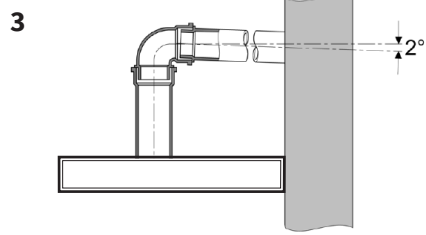

Fig. 3: inclination angle of the exhaust air pipeline
- If the exhaust air pipeline is horizontally routed, there must be a minimum gradient of 1 cm per metre or an inclination angle of 2°. (**Fig. 3**) Otherwise condensation water could run into the extractor hood motor.